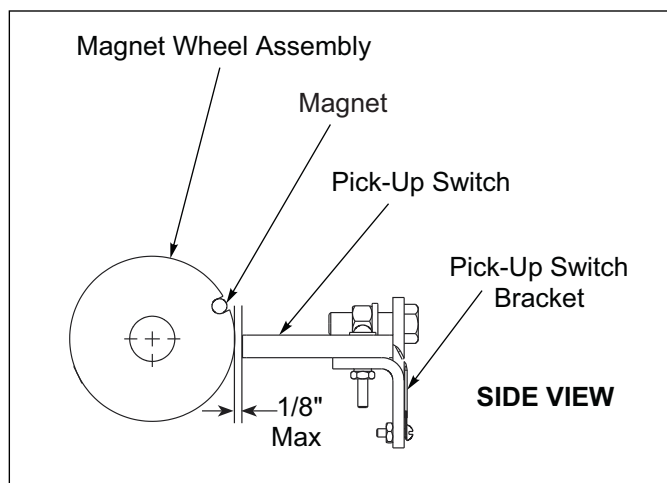

Figure 2-19: Pick-Up Switch Positioning
6. Adjust the Pick-Up Switch and Pick-Up Switch Bracket so the centerline of the Magnet Wheel Assembly and Pick-Up Switch are horizontally and vertically aligned with maximum 1/8" between the Magnet Wheel Assembly and Pick-Up Switch. Tighten all Screws. **See Figures 2-19.**